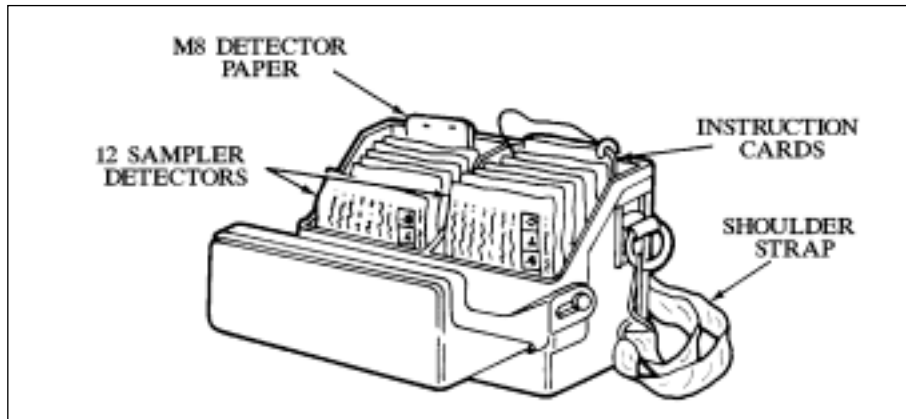

Fig 4-6. M256/M256A1 chemical detector kit.
c. Purpose and features of M256/M256A1 chemical agent detector kit (fig 4-6).
- (1) The purpose of the M256A1 kit is to detect and classify chemical agents in liquid or vapor form. The kit detects the presence of nerve, blood, and blister agents within 15 minutes. The kit